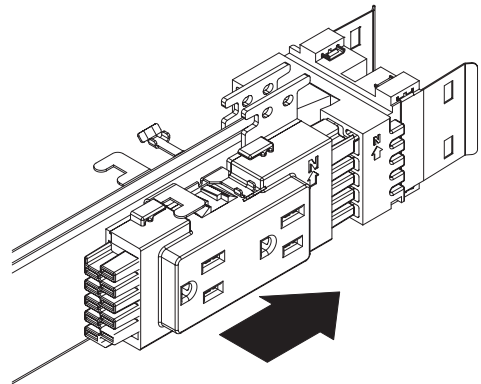

FIG. 2
4. Slide the receptacle to the side so the end terminals slide into the wireway inner socket (Figure 2).